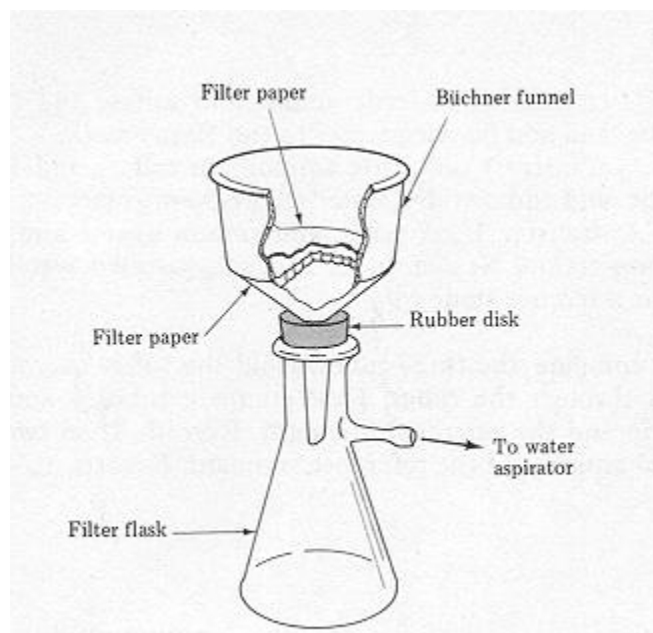

Figure 5.1: Apparatus for suction filtration
Büchner funnel, filter flask, filter paper (Fig 5.1)
3. Keep stirring for 30 min. Then, filter over a Büchner funnel, figure 5.1, and wash the precipitate, first with cold $\sim 8\text{ M HNO}_2$, then with cold water until the filtrate gets colorless.
5. Add 35 mL of distilled water, swirl the mixture and filter it using vacuum filtration (refer to figure 5.1)